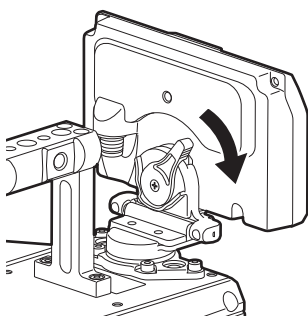

Fig. 3
- 3** Push down the lock lever to the right to lock. (Fig. 3)